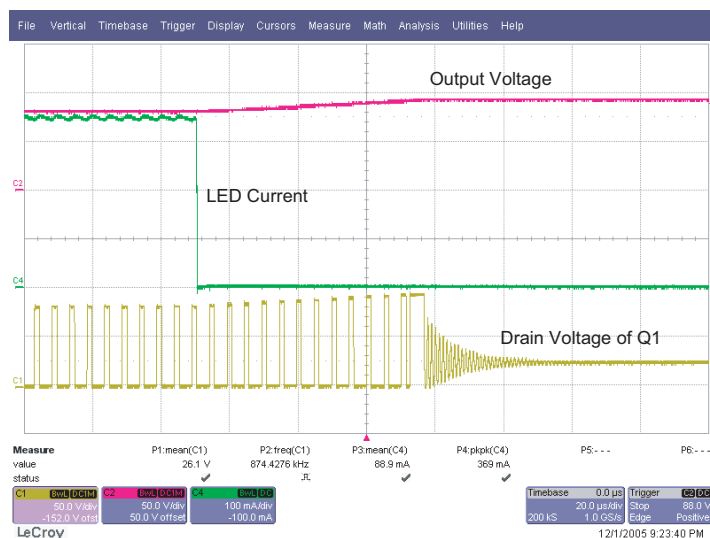

Fig. 6: Open LED Protection (20µs/div)
4. Open LED Protection: Open LED protection for the circuit is set at 92V. The waveforms in Fig. 6 show the output voltage, drain voltage and output current during an open LED condition. The time taken for the over voltage protection to shut the IC down will depend on the size of the output capacitor.